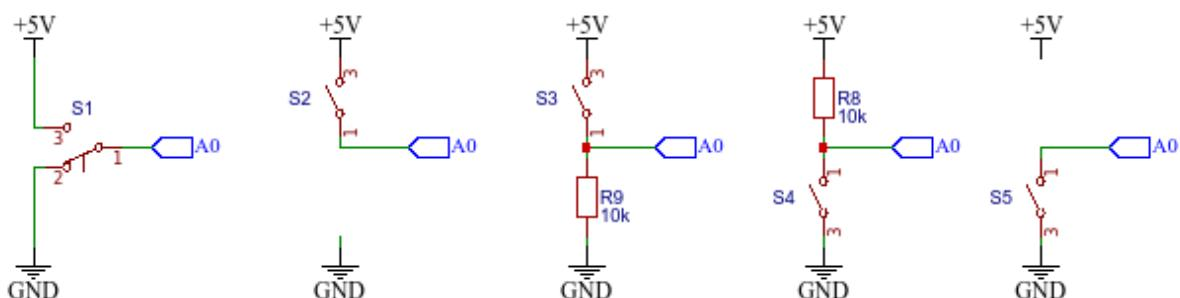

Figure 28.1: Different options of wiring the push-button-switch.
1. Connect the push-button-switch according to first diagram on fig. 28.1 and test the program prog. 28.1
2. Try to connect the bush-button-switch according to second diagram on fig. 28.1
Try to understand why this setup is not working. And test all other options in fig. 28.1
3. Solve the problem by constructing a `voltage divider` with `pull-down` resistor (third diagram on fig. 28.1).
5. Change the setup of PBSW and resistor to a `pull-up` setup (fourth diagram on fig. 28.1). What is changed?
6. Enable internal `pull-up` resistor (and remove external one - fifth diagram on fig. 28.1).